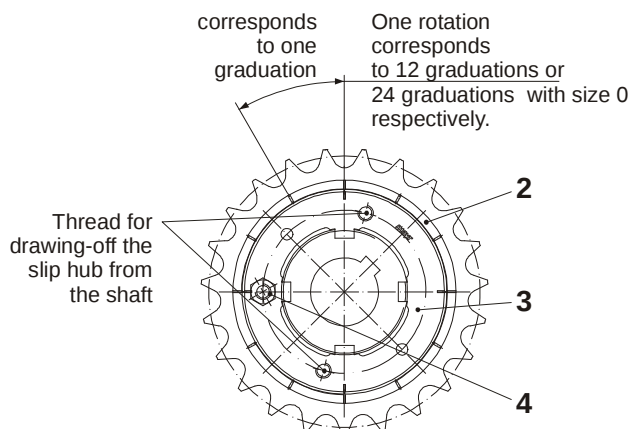

Fig. 20
The thrust washer (item 2) has twelve markings on the back (size 0; 24 markings), the adjusting nut (item 3) has four markings (Fig. 20). The adjusting nut with the lock washer are moved manually until they make contact with the cup springs; the four markings must coincide with markings of the thrust washer.
The thrust washer (item 2) has twelve markings on the back, the adjusting nut (item 3) has four markings on the back (Fig. 20). The adjusting nut with the lock washer are moved manually until they make contact with the cup springs; the four markings must coincide with the markings of the thrust washer.